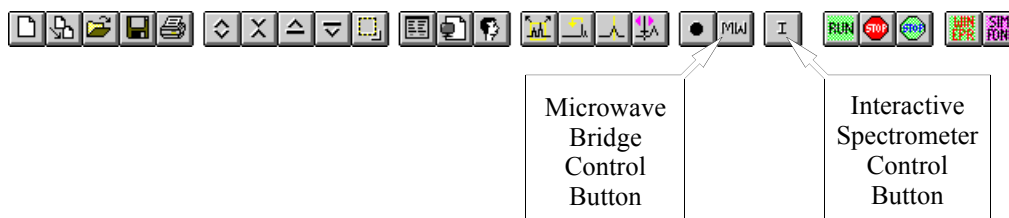
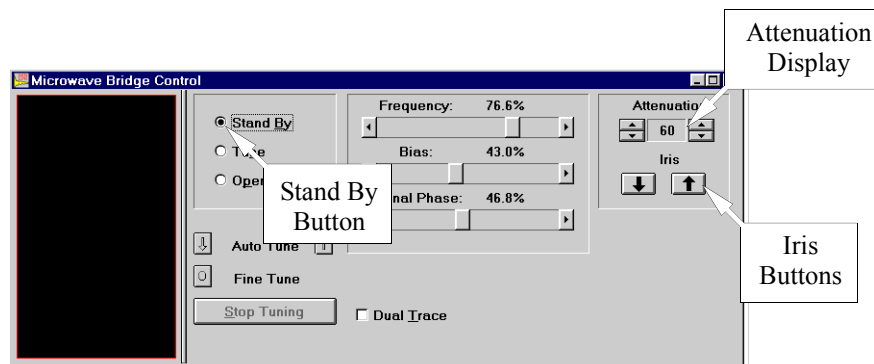

Figure 5-17 The Interactive Spectrometer Control button.
Figure 5-19 The Microwave Bridge Control dialog box.
1. **Open the Interactive Spectrometer Control dialog box.** If this window is not already open, click its button (See Figure 5-17.) in the tool bar. The button toggles the dialog box open and closed. The Interactive Spectrometer Control dialog box will then appear. (See Figure 5-18.)
4. **Close the Interactive Spectrometer Control dialog box.** Click the Interactive Spectrometer Control (the button labeled I) in the tool bar. The button toggles the dialog box on and off. The Interactive Spectrometer Control dialog box will then disappear. (See Figure 5-17 and Figure 5-18.)
5. **Open the Microwave Bridge Control dialog box.** If this window is not already open, click its button (See Figure 5-17.) in the tool bar. The button toggles the dialog box open and closed. The Microwave Bridge Control dialog box will then appear. (See Figure 5-19.)
6. **Switch the microwave bridge to Stand By mode.** Click the Stand By button in the dialog box to change to the Stand By mode. (See Figure 5-19.)
1. **Click and hold the down Iris Button.** Activate this button (See Figure 5-19.) until the iris motor stops turning; this is the lower limit of the motor.
2. **Reconnect the iris motor shaft to the iris screw.** The procedure here is like Step 5. performed in reverse. Reposition the iris screw motor. Screw the lock nut on the iris screw. Click and hold the up iris button in the **Microwave Bridge Tuning** dialog box (See Figure 5-19.) until the iris screw is approximately 0.5 to 1 cm. above the top surface of the cavity body.